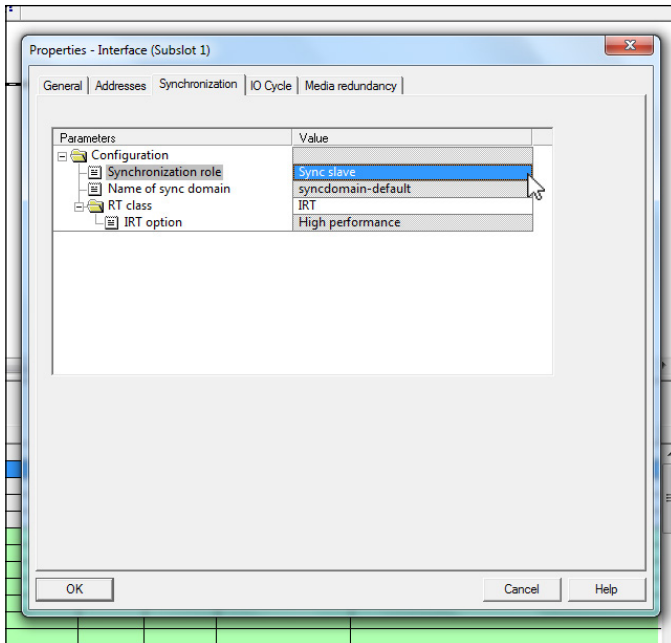
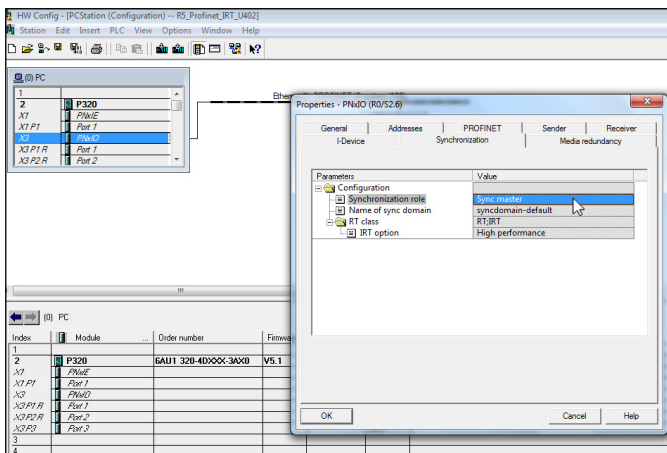

Fig. 75: Setting the sensor via the control to the IRT mode as "Sync slave"
Fig. 79: Setting the controller for IRT mode as "Sync master"
5. In Fig. 75 the sensor was set as "Sync slave" via the control in IRT mode. Make the setting on the controller in the same way. Activate the isochronous mode on your controller. Fig. 79 shows this for the interface X3 – PNxIO. By a double-click on the interface in the icon of the controller "(0) PC" in the main window, the "Properties - PNxIO" window opens. Set in the tab "Synchronization" under the entry "Configuration" the parameter "Synchronization role" to the value "Sync master". Confirm the entry by clicking the "OK" button.